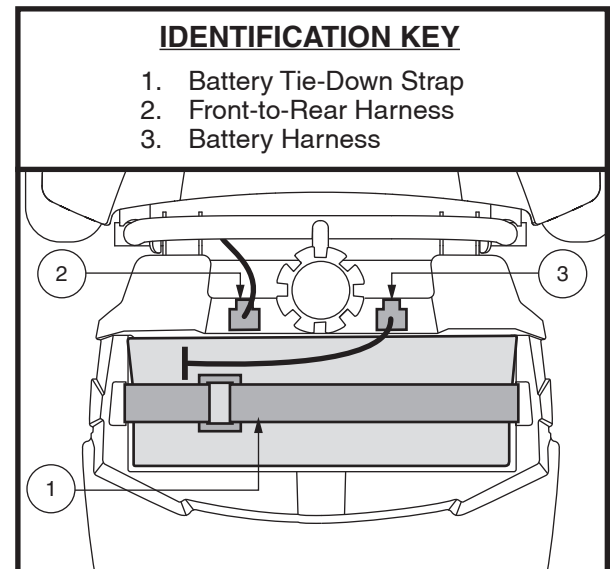

Figure 24. Battery Tie-down Strap
1. Disconnect the battery harness and remove the battery pack from the Travel Scooter. See figure 24.
2. Disconnect the battery harnesses and tie-down strap then remove the battery pack from the Travel Scooter. See figure 24.